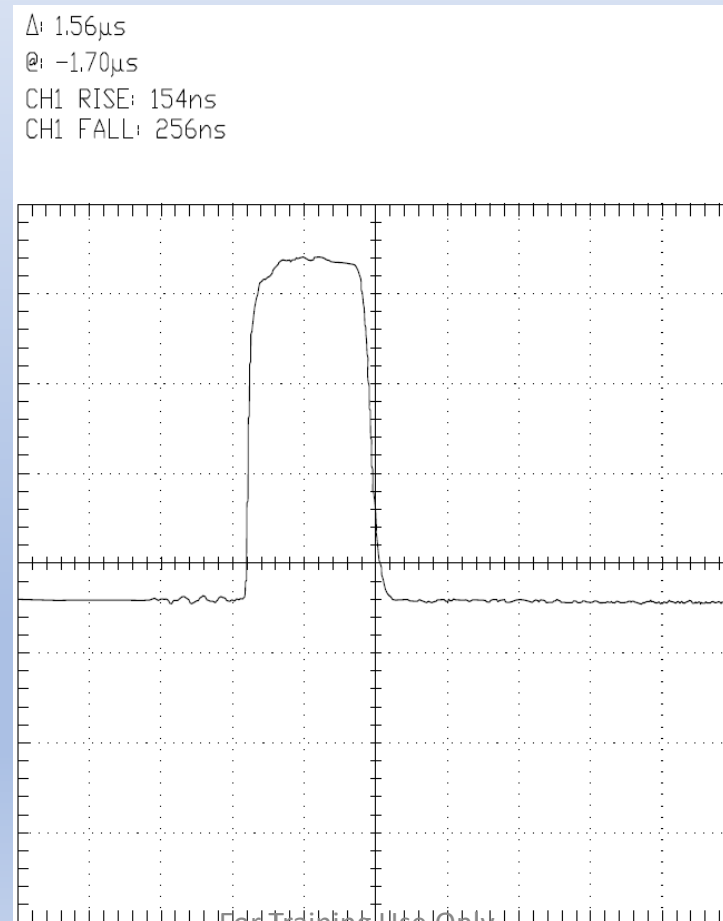
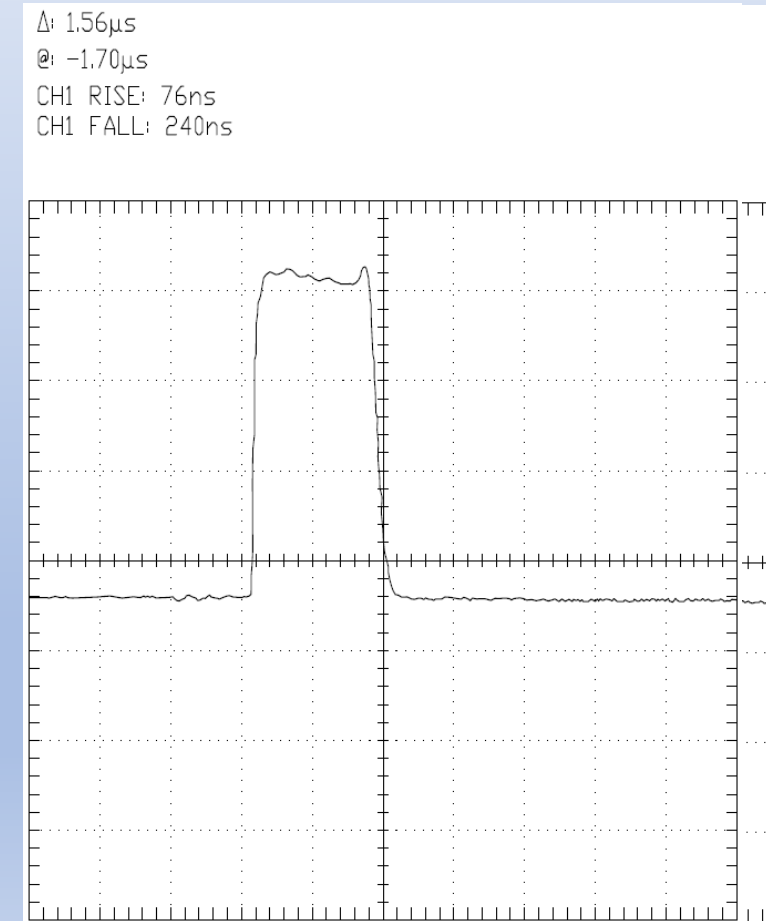

Figure 5-12
Figure 5-13
15. Tune cavity #4 ONLY to produce a waveform similar to Figure 5-12 which is considerably flatter on the top and has a Rise Time of 150 ± 25 nsec. There is a “sweet spot” in the tuning of cavity #4 just before the waveform starts to deteriorate as shown in Figure 5-13. If the rise time has become too steep, back off the tuning of cavity #4 to obtain a Rise Time of 150 ± 25 nsec.